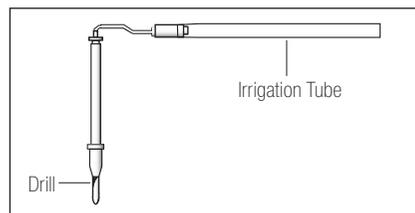

Fig.11
- 3) Insert the Internal Spray Nozzle into the drill from the back. (Fig.11)